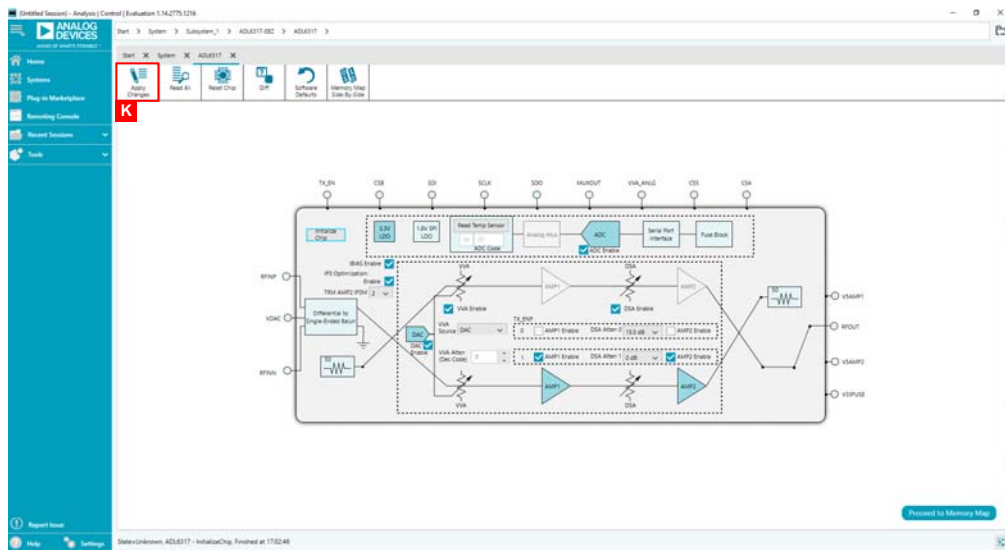

Figure 7. ADL6317-EVALZ ACE Chip View After Chip Initialization
4. After changing the block as directed in Step 3, in the ACE software, click **Apply Changes** (Label K, see Figure 7) to update to ADL6317.